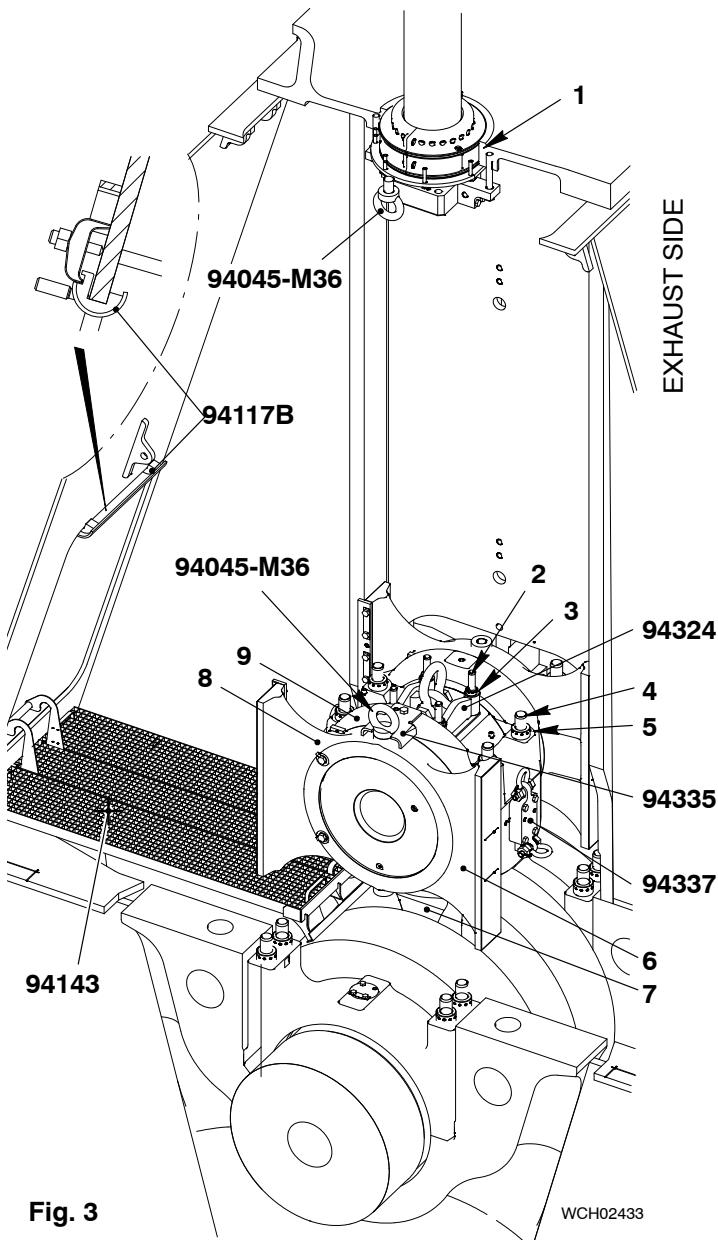

Fig. 3
- 1) Install the platform (94143, Fig. 3).
- 2) Install an eye bolt (94045-M36) to a position near the gland box (1).
- 3) Install an eye bolt (94045-M36) to the guide shoe (8) (below the eye bolt near the gland box).
- 5) Loosen the four elastic studs (4) of the connecting rod, refer to 9403-4.
- 6) Remove the four round nuts (5).
- 7) Put the lifting tool (94324) on to the elastic studs (2).
- 8) Attach the round nuts (5) to the elastic studs (4).
- 9) Tighten the round nuts (5) with the round bar (94005).
- 10) Install the stop plate (94335) to the bearing cover (9).
- 14) Install the platform (94143, Fig. 3).